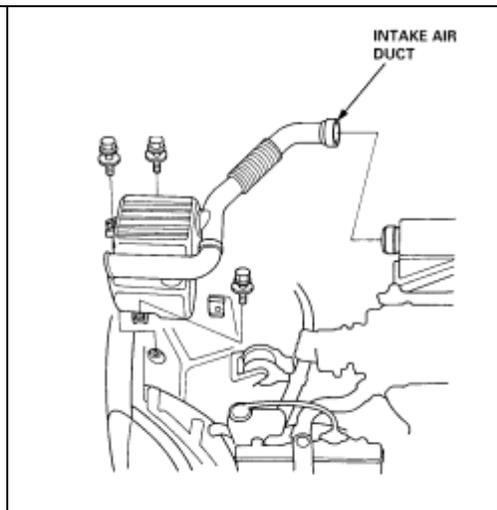

Fig.4: Removing air inlet resonator
- b. Loosen and remove the resonator hold down bolts. (Fig 4)